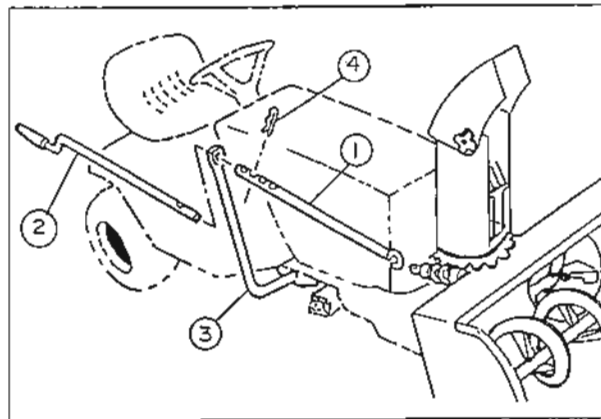

FIGURE 15
g) Attach rotation tube (fig.15, item 1) to shaft of rotation worm, by placing the hooked end of the lower rotation tube through the hole in the shaft of the rotation worm.
h) Place rotation handle (fig.15, item 2) through handle support (fig.15, item 3), insert into rotation tube (fig.15, item 1) and secure with a 4mm dia. x 80mm hairpin (fig.15, item 4).